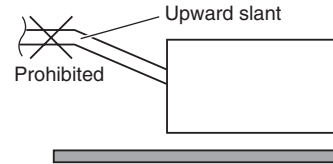

Fig. 3-12
- Do not install the pipe with an upward slant from the connection port. This will cause the drain water to flow backward and leak when the unit is not operating. (Fig. 3-12)